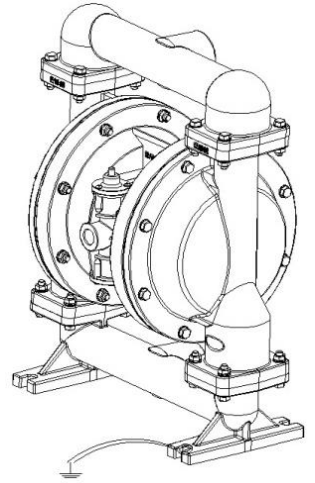

Figure 9 - Pump grounding
5.6.1 For the pump: Use a conductor (for grounding) with a cross-section of at least 1.5 mm^2 . Connect the conductor to the pump's leg as shown on Fig. 9, and the other end to the grounding line.